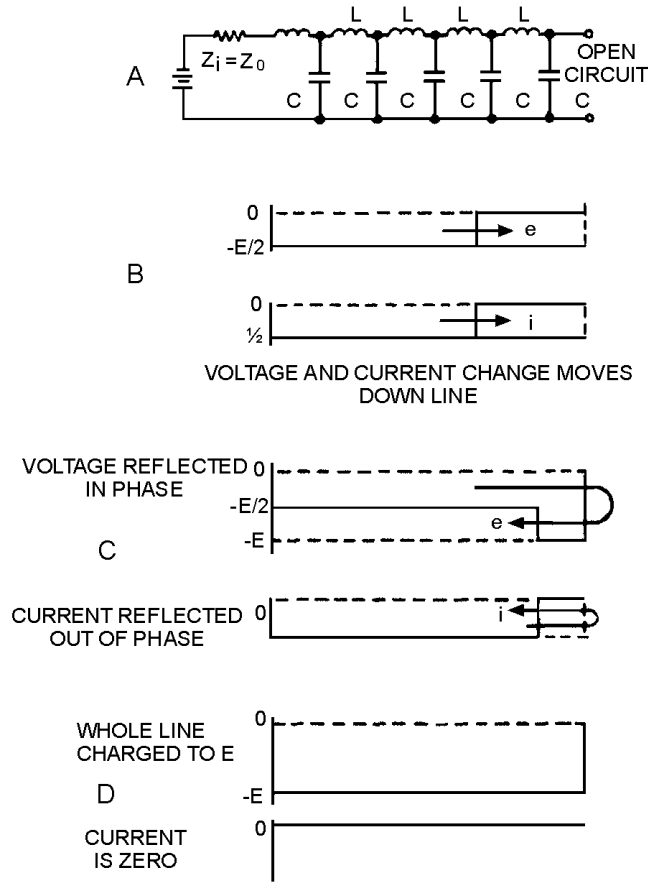

Figure 3-24.—Reflection from an open-ended line.
The equivalent circuit of an open-ended transmission line is shown in figure 3-24, view A. Again, losses are to be considered as negligible, and L is lumped in one branch. Assume that (1) the battery in this circuit has an internal impedance equal to the characteristic impedance of the transmission line ($Z_i = Z_0$); (2) the capacitors in the line are not charged before the battery is connected; and (3) since the line is open-ended, the terminating impedance is infinitely large.